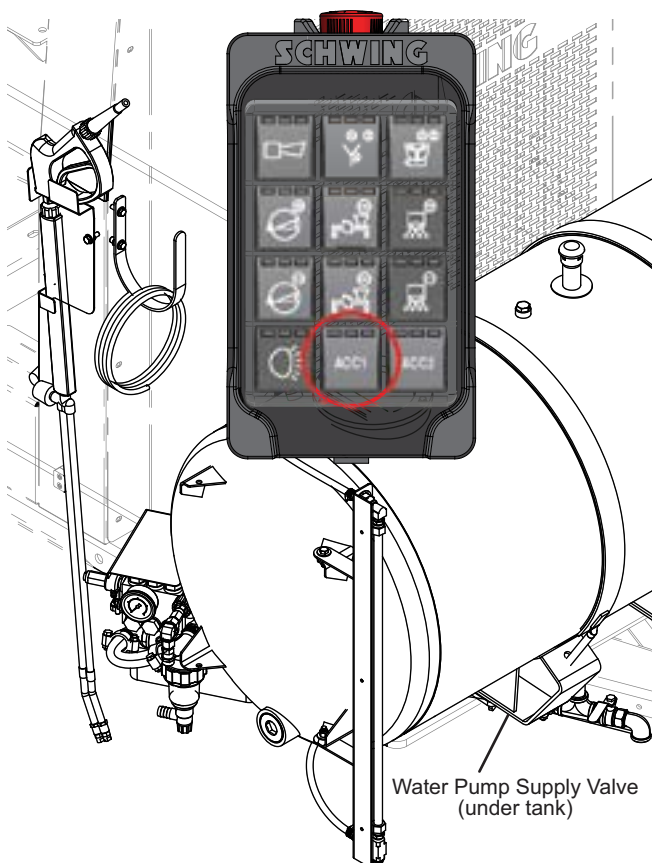

Figure 11
Opening the water pump supply valve (Figure 11) provides water to the high-pressure pump from the water tank. **Water MUST be supplied to the high-pressure pump BEFORE starting.**
Pressing the ACC1 button on the radio or pendant remote (Figure 11) switches a directional valve, sending oil to the hydraulic motor of the high-pressure pump. The high pressure pump will start immediately.
- Open the suction line of the high-pressure pump to the water tank by opening the water pump supply valve, located under the water tank (Figure 11).
- Before restarting the HPCS, fill water tank, close the filter drain, and open the water pump supply valve (Figure 11).
- Close the water pump supply valve (Figure 11).